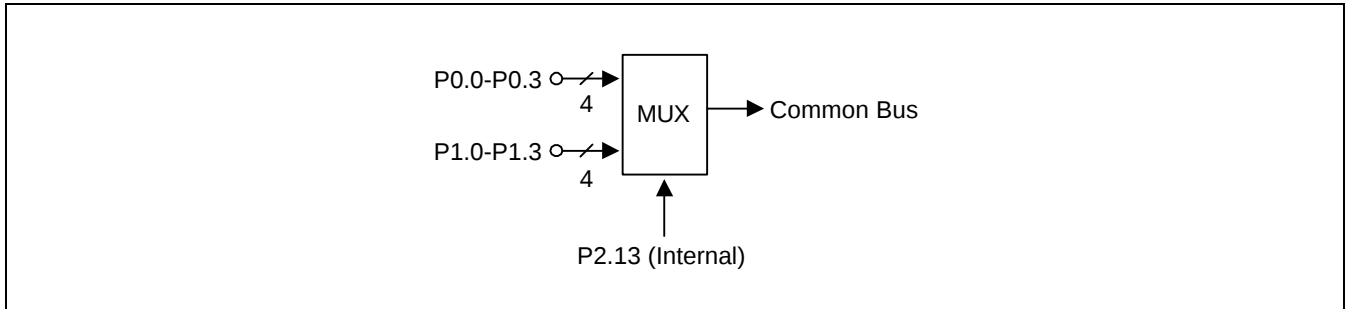

Figure 1-14. KS51840 Input Port
A page select instruction (PAGE #n) loads the value “n” into the PB. When JP or CALL instruction is executed, and if the Status Flag (SF) is set to 1, the contents of PB are loaded into PA. If SF is “0”, however, the JP or CALL is executed like NOP instruction and SF is set to “1”. The contents of PB don’t be loaded. Figure 1-14 illustrates this concept.